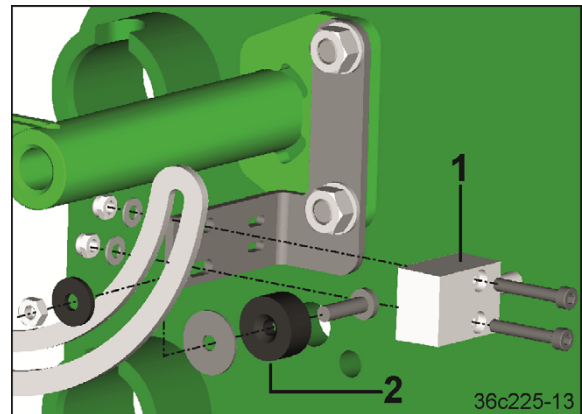

Fig. 118
9. Fasten the working position sensor (Fig. 118/1) and the adjustment magnet (Fig. 118/2).
The working position sensor (Fig. 118/1) transmits the pulse for switching the seed tube monitoring on and off.